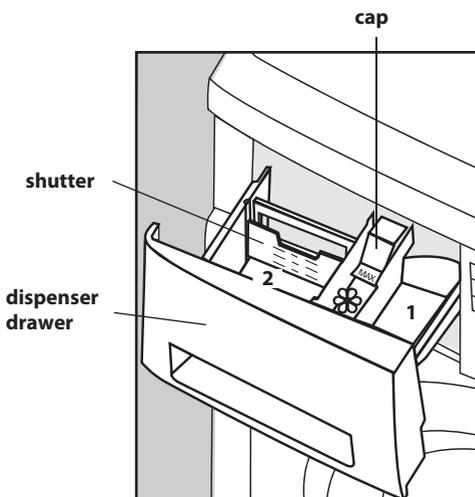
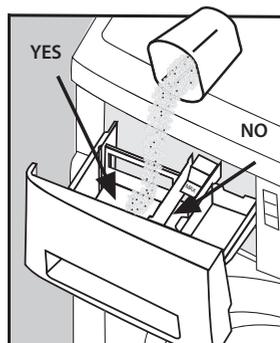

Figure 14
Figure 15
**CAUTION! Charge a half of a rated volume of detergent taking into account its Manufacturer's requirements for a maximal laundry loading into section 2 of dispenser drawer in accordance with Figure 14.**
The machine has a drawer for loading washing powders or detergents (Fig. 14). The drawer has three compartment marked with figures and a symbol as follows:
Shutter, in section 2 in accordance with Figs. 15 and 16, is provided for liquid detergent using. Numeral levels of dosing in ml are applied on the both sides of the shutter.
When you are using SDs as powder, take the shutter out of the main wash compartment 2 (Fig. 14). Be careful not to put any powder into the compartment for special treatment substances ☼ (Fig. 15), otherwise foam may form during rinsing and white spots may appear on the items.
When choosing the program  (Spot Removal), put the bleachers into compartment 1 (Fig. 14), and the bleaching will take place immediately after the main washing.
To improve the washing quality and protect the Machine from lime sediments, when washing in water having hardness II or III, it is recommended to use, alongside with SDs, a water softener. It should be added to the SD into compartment 2 (Fig. 14) according to manufacturer's guidelines.
Spots of mould are removed at washing with adding of a bleacher into the bleacher tray (Fig. 14), if the cloth withstands the effect of the bleacher. Otherwise, the dirty spot is moistened with 10-percent solution of hydrogen peroxide and left for 15 minutes.
Take the shutter and caps out of the pan in accordance with Fig. 14 and flush carefully its outer and inner surfaces under a jet of warm water. Flush the pan for detergents in accordance with Fig. 18. Insert the detachable parts into the drawer's section and install the drawer into the Machine with no squeezing of lateral surfaces of the section ☞, close the drawer gently.